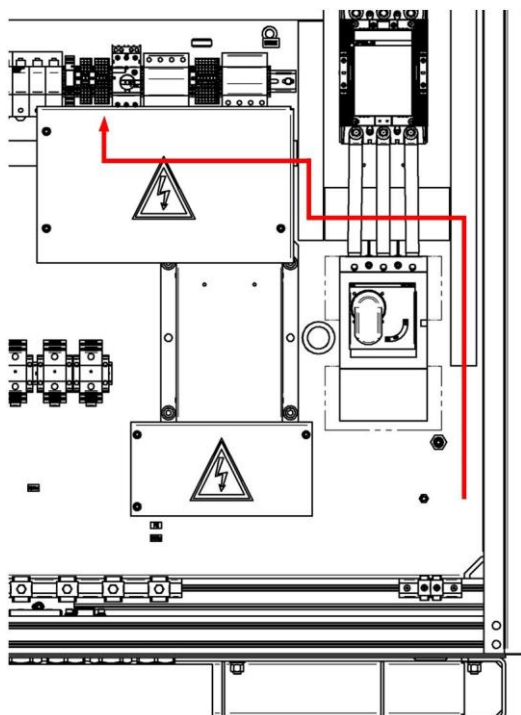

Figure 16: Cable routing terminal strip (-X17)
1. **Locate** terminal strip (-X17) (Figure 16).